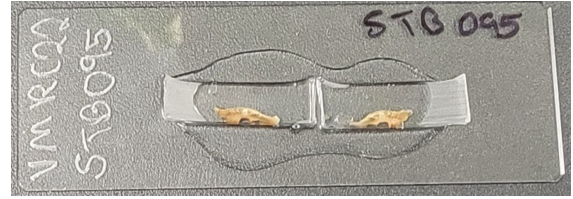

Figure 23: Completed striped bass otolith thin-section, labeled appropriately with species code and fish ID.
Figure 23 shows the final otolith thin-section slide correctly labeled with abbreviation of species name (STB for Striped Bass), fish ID (095), VMRC, and collection year (2022). Place the completed slides on an aluminum slide tray and allow the Flo-Texx[®] to air-dry on the thin-sections for several hours (until solidified).